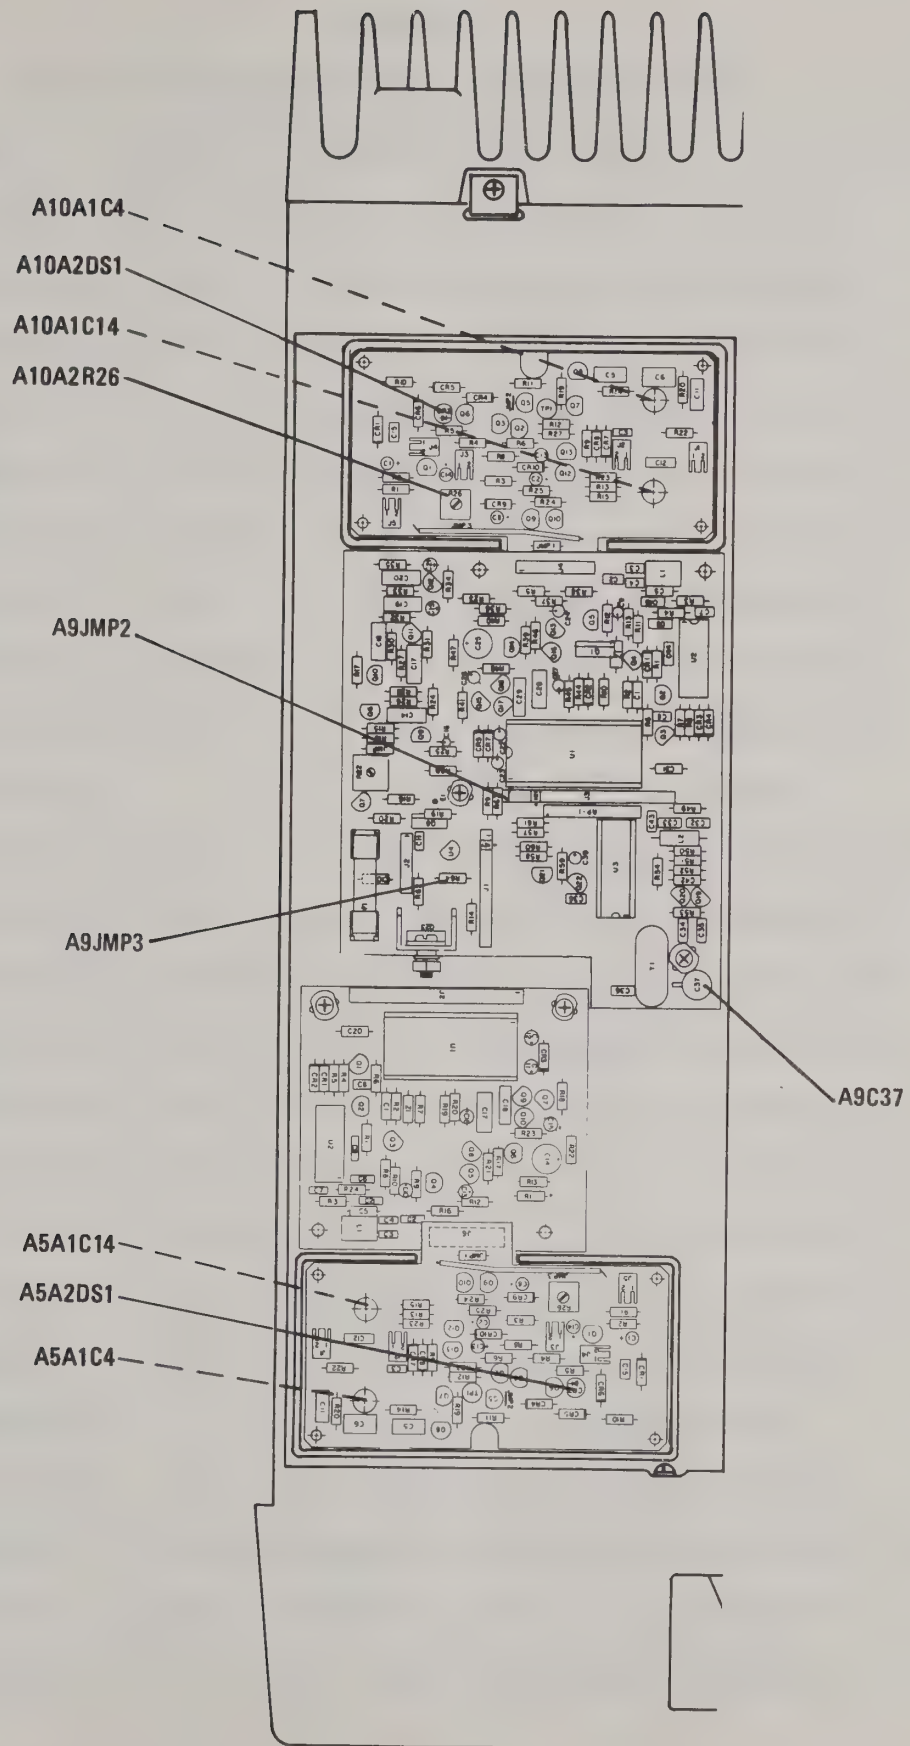

Figure 3. Master/Slave Synthesizer Logic Module, Adjustments
5.01 All significant inputs and outputs are shown on the tab section cover diagram and in the schematic diagrams in this tab section. The adjustment indicated by the alignment procedures described in this section are made at the factory prior to shipment. Normally, it should not be necessary to repeat any of these adjustments unless there are component failures or unless changes in operating frequency are made. The Master and Slave Synthesizer Logic Module adjustments are made in conjunction with the Rx VCO Module, the Tx VCO Module and the Interface Logic Module adjustments. Removal of the Transceiver cover facilitates the maintenance and adjustment of the previously mentioned modules by making all necessary test points available. These adjustments can be made using the test equipment shown in figure 3 or their equivalents.
(c) Connect power and Control Unit cables according to figure 3. Set Control Unit for manual operation in center channel.